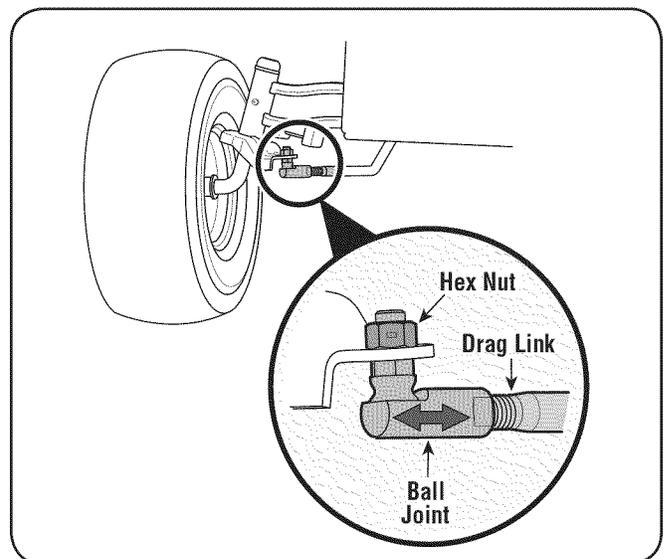

Figure 6-6
1. Remove hex nut on the top of ball joint. See Fig. 6-6.